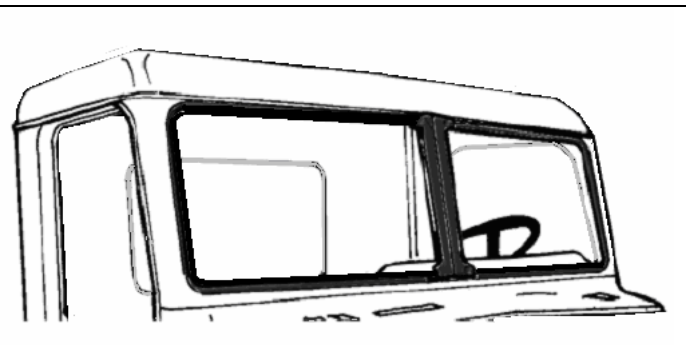

Figure 5-81. Windscreen Kit Installation (2 of 7).
2. Spread the supplied Sikaflex primer on the areas indicated by the dark lines around the windshield opening in Figure 5-81.